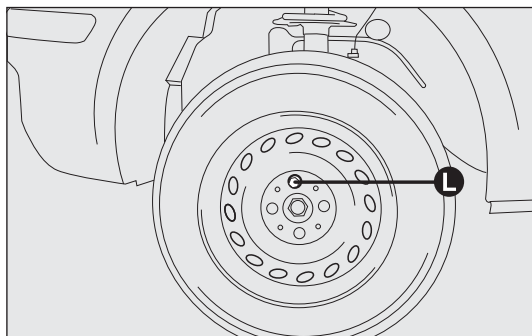

fig. 154
- for versions with hub caps, remove the cap after unscrewing the 3 fastening bolts and then unscrew the fourth bolt L-fig. 154 and remove the wheel;